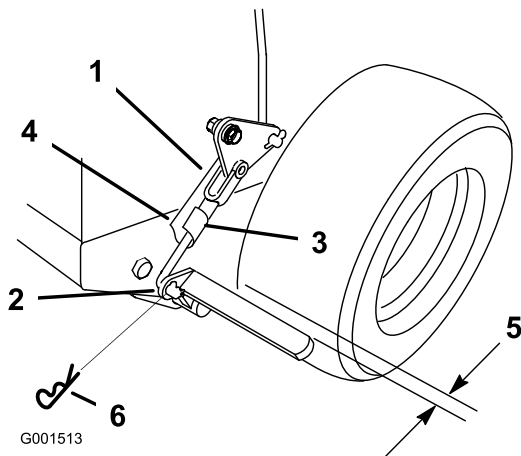

Figure 42
3. Remove the spring hair pin from the lower brake link (Figure 42).
yoke counterclockwise out of the yoke out to loosen the parking brake (Figure 42).
Note: With the parking brake in the released position, the clearance between the tyre and the flat bar is approximately 6 mm (1/4 inch) (Figure 42).
5. Secure the lower link to the lower brake lever with the hair pin cotter and the clevis pin (Figure 42).